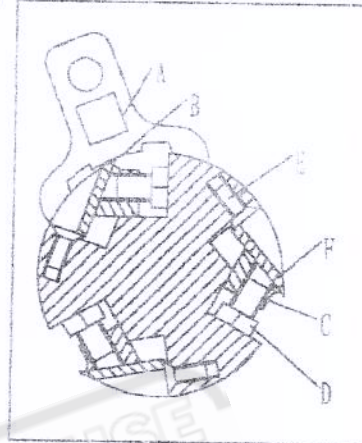

Fig. 18
B. If an adjustment to one or more of the knives is necessary, slightly loosen the knife locking bar (C) Fig.18,of all three knives by turning the fifteen knife locking screws (D) into the knife locking bars just enough to relieve stress in the cutterhead and not disturb the setting of the knives.
C. Then, using the knife gage, adjust the knife that must be reset by loosening all five locking screws (D) Fig.18, by turning them into the knife locking bar. Then turning the jack screw (E) located under the knife will raise the knife until it comes into contact with the center portion(B) of the gage (A)Fig.18. Then snug up the knife locking bar by lightly backing out the five screws (D) against the slot.
A. To remove knives, loosen the knife locking bar(C)Fig.18 by turning the five knife locking screws(D)into the knife locking bar (C) and remove the knife locking bar(C),knife (F)and jack screw (E) located under the knives.
D. Inspect the cutting edge of the knives for nicks or wire edge. Hone the knives slightly using a stone or if the knives are to be sharpened, maintain a cutting angle of 35° degrees as shown in Fig.18.
E. Insert Jack screws (E), knives (F) and knife locking bars(C). Into all three slots in the cutterhead, as shown in Fig.18. Back out locking screws(D)just enough to hold all three knives in the cutterhead.
G. while holding down, on the knife gage(A) Fig.18, loosen all five locking screws(D) by turning them into bar(C) until cutting edge trusion(B) of gage (A). Then snug up the knife locking bar(C)by slightly backing out the five screws(D)against the slot. **IMPORTANT: AT THIS TIME, ONLY TIGHTEN THE KNIFE INTO THE SLOT JUST ENOUGH TO HOLD THE KNIFE IN POSITION.**
J. After all three knives are set with the screws just snug, back out and tighten the five screws(D)Fig.18,against the slot's starting with the end screws first and then the center screws until the knife is securely held in the cutterhead. Tighten the remaining two knives in the same manner.